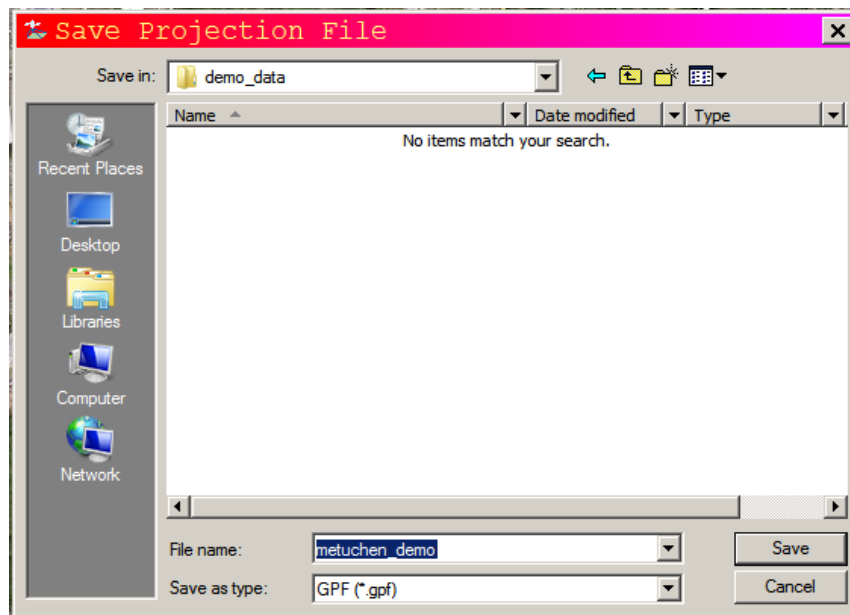

Figure 6. Saving the geo-coded Projection File as a “GPF” file
20. Start the Dragnet Analyzer program module by double-clicking on the program icon, to obtain the blank Dragnet Analyzer screen seen in Figure 6: